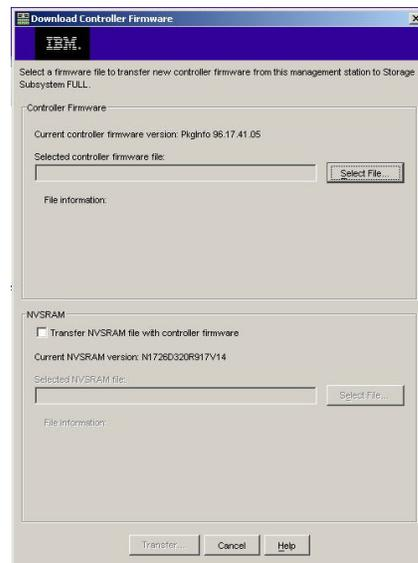

Figure 28. Download Controller Firmware window
2. Click **Support** → **Download firmware** → **Download Controller Firmware**. The Download Controller Firmware window opens, as shown in Figure 28.